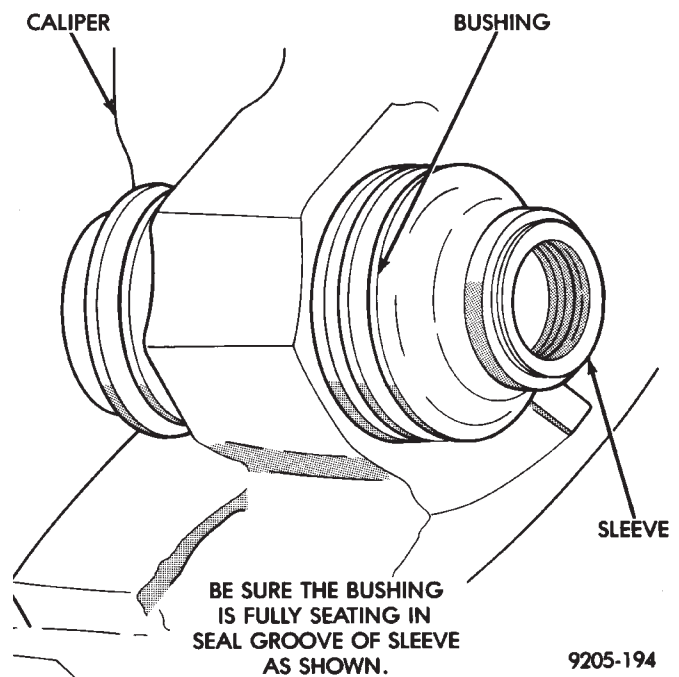

Fig. 181 Correctly Installed Guide Pin Sleeve And Bushing
(7) Verify both ends of the bushing are seated in the sleeve grooves (Fig. 181). When the sleeve is seated properly into the bushing, the sleeve/bushing can be held between your fingers and easily slid back and forth without the bushing unseating from the sleeve groove.